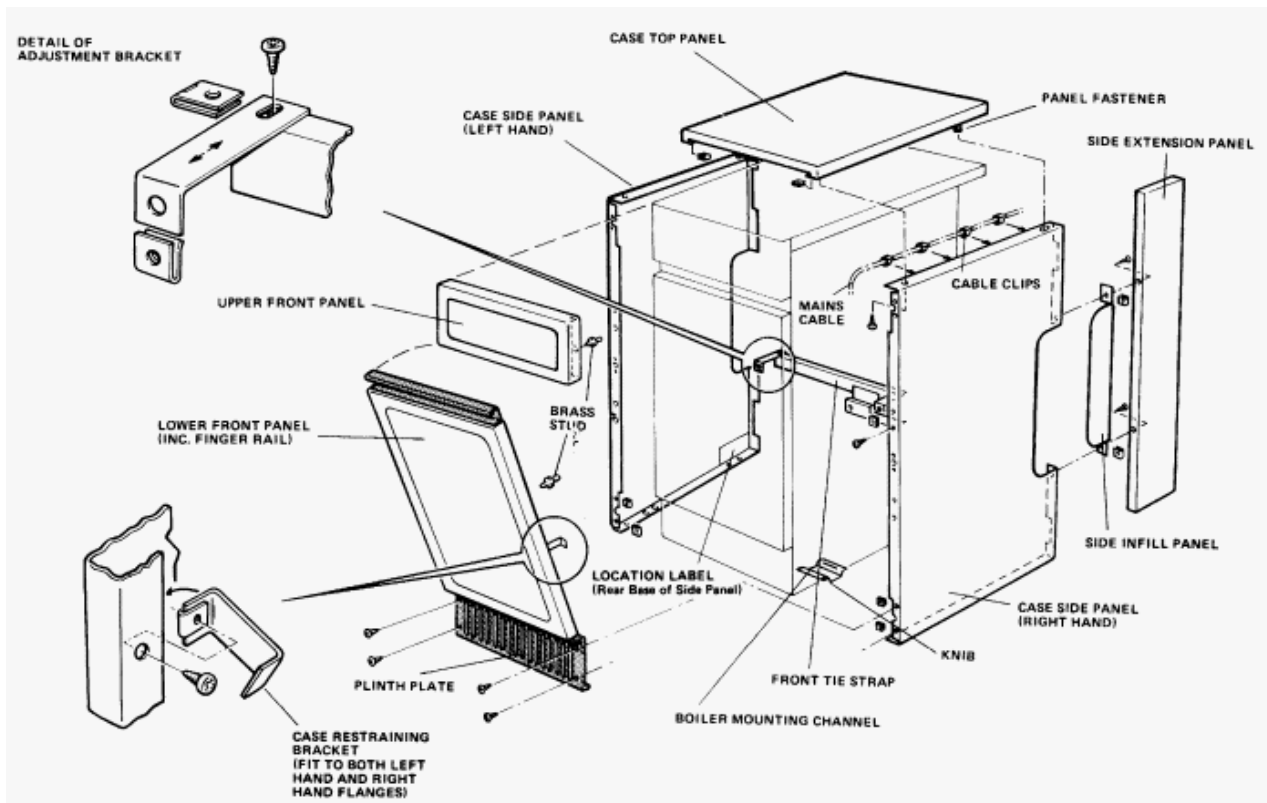

FIG. 12
10. CASING—See Fig.12
B. Fit the captive nuts supplied in the fastener pack to the hole positions shown in Fig.12 (6 off, including 2 for the side infill panel). The four smaller captive nuts and screws contained in the additional polythene bag should be used for the plinth.
D. Fit the case adjustment brackets to each end of the front tie strap as shown in Fig.12. Do not fully tighten the screws at this stage.
M. Fit the two universal case restraining brackets and their captive nuts to the holes beneath the bank of three holes in the flange of the lower front panel (see Fig.12).